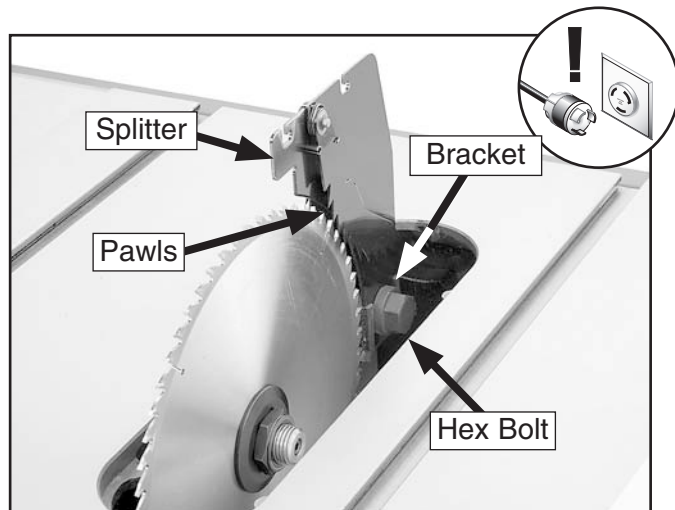

Figure 26. Splitter installed.
3. Using an arbor wrench, loosen the hex bolt shown in **Figure 26**.